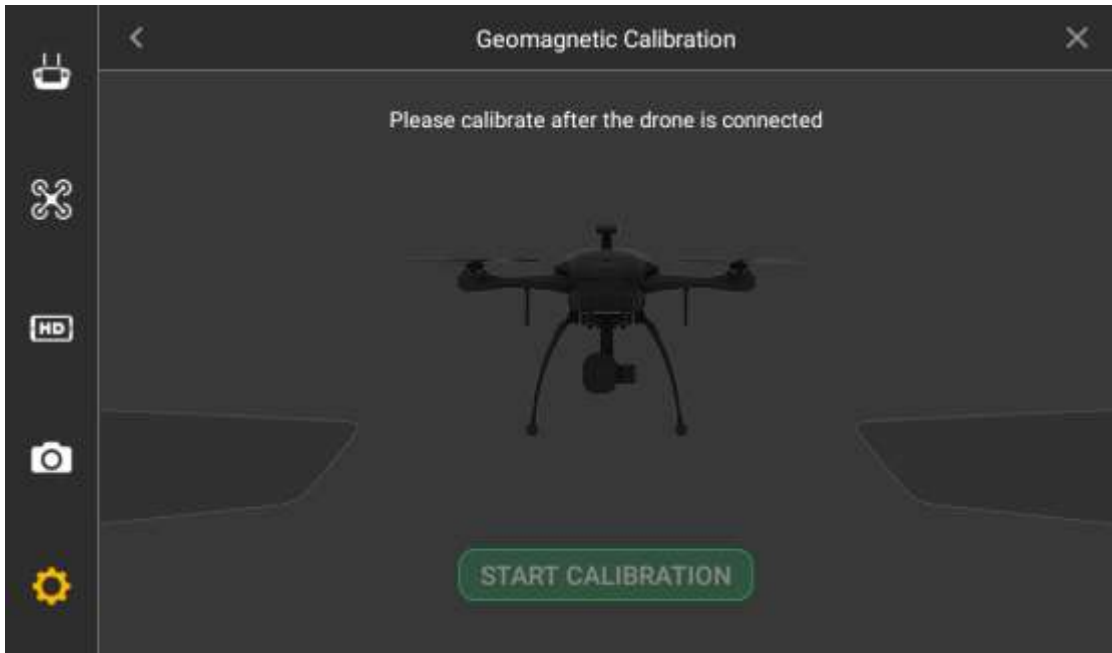

Figure 3-33
Step 1 Select "Settings > General > Other > Geomagnetic Calibration" on the remote control and enter the interface of geomagnetic calibration, as shown in Figure 3-33.